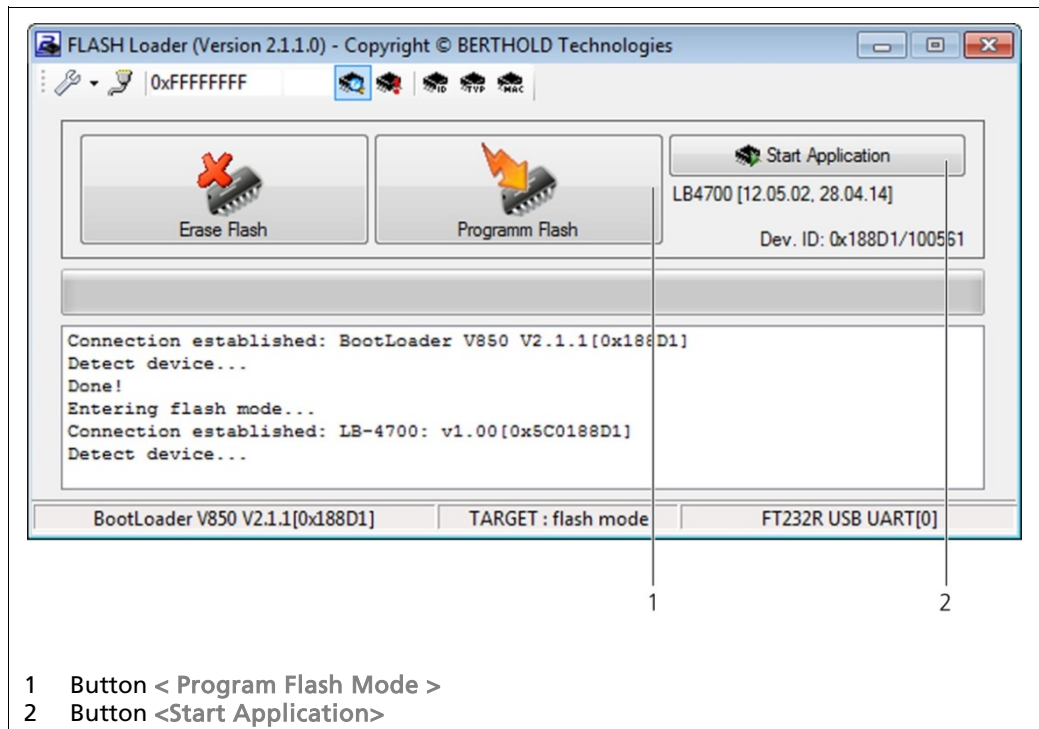

Fig.15 Flash Loader “Program Flash” Page
12. Click on the button <Program Flash> (Fig.15, item 1).
14. Click on the button <Start Application> (Fig.15, item 2) after the programming has ended.